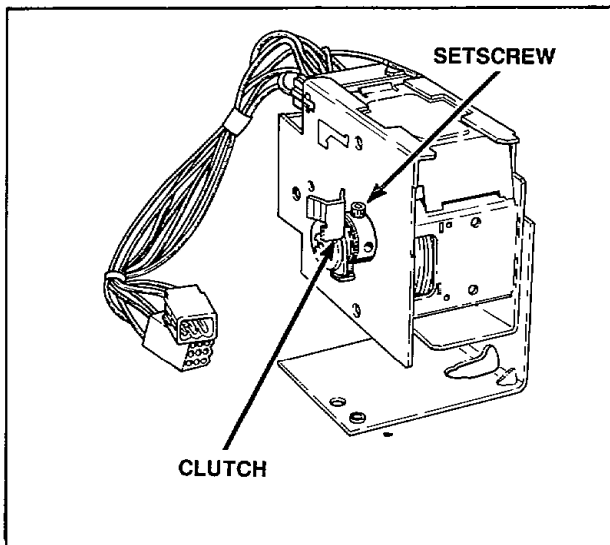

Figure 5
- f. Loosen setscrew holding clutch to timer shaft. *Figure 5*.